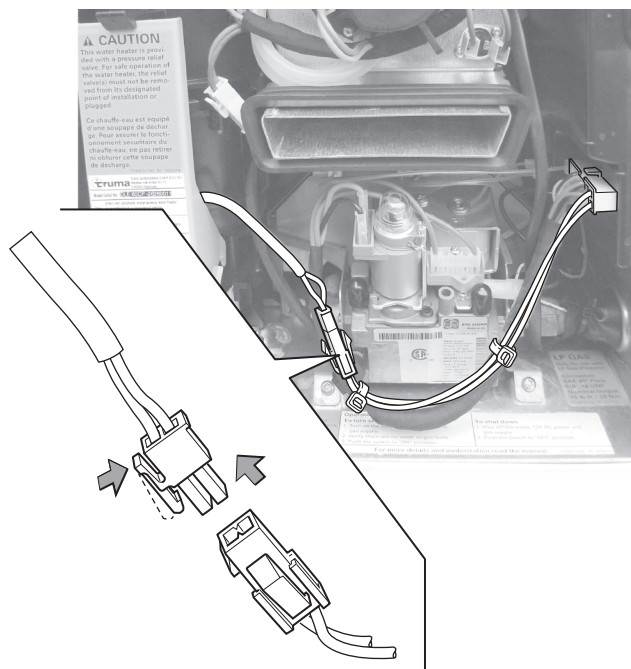

Fig. 11
**NOTICE** You must use the water inlet filter for decalcification (included with the delivery Fig. 1 – 11a). If you are using an electric anti-freeze kit, it must be removed and be unplugged from the power supply before decalcification (see Fig. 11).